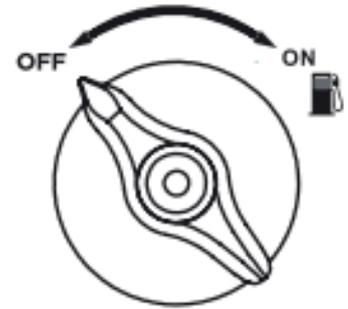

Figure 11: Stopping Generator
3. Move the Fuel Control Switch to the OFF position, press “Stop” on remote start key fob, or press the push button start once (see Figure 11).